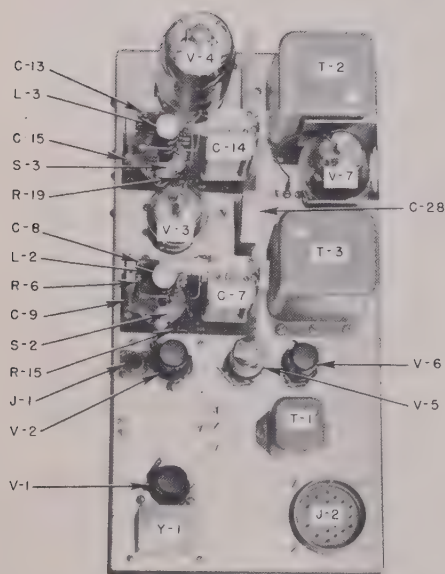

Figure 56. Radio Transmitter Model 96D, top view of exciter chassis
a. Localizing Trouble in Exciter (figs. 56 and 57).
2. Voltages at all pins of V-2 normal except: a. No voltage between pins 2 and 7. b. No voltage at pin 3. c. Positive voltage at pin 4. d. No voltage at pin 4 e. No voltage at pin 5. f. - No voltage at pin 6. g. No voltage at pin 8. h. No voltage at pins 6 and 8.	a. See item 1a above. b. Defective switch S-1. c. Shorted capacitor C-5. d. Open resistor R-3. e. Shorted capacitor C-4. f. Open resistor R-5. Shorted capacitor C-6. Open potentiometer R-17. g. Open resistor R-15. Shorted capacitor C-9. h. Open resistor R-18.	a. See item 1a above. b. Repair or replace S-1. c. Replace C-5. d. Replace R-3. e. Replace C-4. f. Replace R-5. Replace C-6. Replace R-17. g. Replace R-15. Replace C-9. h. Replace R-18.
3. Voltage at all pins of V-3 normal except: a. No voltage between pins 1 and 5. b. No voltage at pin 2.	a. See item 1a above. b. Open resistor R-8. Shorted capacitor C-12.	a. See item 1a above. b. Replace R-8. Replace C-12.
a. Localizing Trouble in Exciter (figs. 56 and 57) (contd).
c. Localizing Trouble in Channel Control and Keying Circuits (figs. 56 and 57)
c. Localizing Trouble in Channel Control and Keying Circuits (figs. 56 and 57) (contd).
a. Relay 0-3 fails to close.	a. Keying lines from remote control unit defective. Open transformer T-1. Refer to item 1a above.	a. Repair keying lines. Replace T-1. Refer to item 1a above.
d. Localizing Trouble in Bias Supply and Control Circuit (figs. 56 and 57).